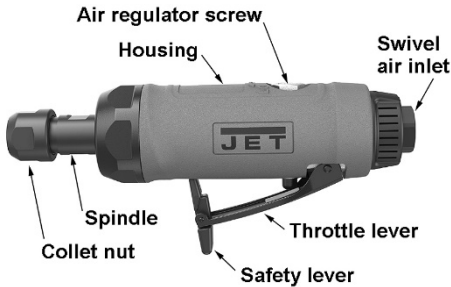

Figure 1 (JAT-419 shown)
1. Loosen collet nut using the two wrenches on the flats of the collet nut and spindle (Figure 1). Keep wrench on spindle stationary while turning wrench on collet nut.
3. Remove protective cap from air inlet (Figure 1). If an in-line oiler is not being used, add 4 or 5 drops of air tool oil (not included) into the air inlet.